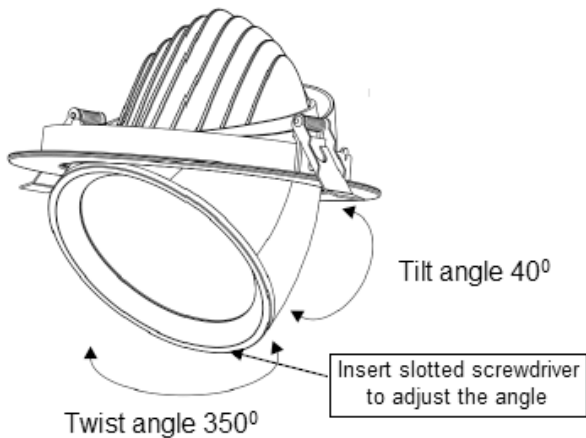

Fig. 3
- With the aid of a flat-head screwdriver, adjust the luminaire to the desired angle (see Fig. 3)